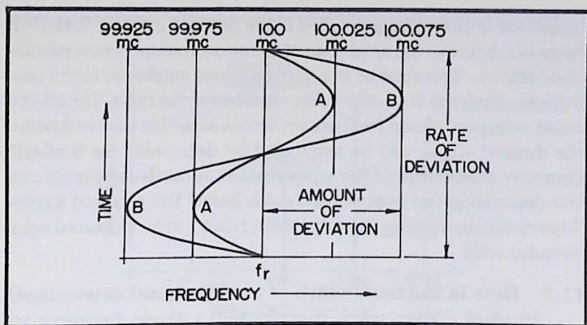

Fig. 11-1. Tank circuit frequency changes.
In radio work, deviation is usually associated with frequency modulated (FM) receivers and used in phrases such as deviation ratio, rate of deviation, deviation distortion, etc. Deviation itself simply means variation. In FM, the frequency of the audio signal determines the number of times per second (rate of deviation) that the radio frequency changes. The amplitude of the AF signal determines the extent of tank circuit frequency change (amount of deviation). A graph representing the changing tank circuit frequency at an audio rate is shown in Fig. 11-1.
The letters f_r represent the resting frequency of the tank circuit when there is no modulating signal present (in this case $f_r = 100$ MHz). With a sinusoidal sound source of 500 Hz applied (A in Fig. 11-1), the amount of deviation on either side of the resting frequency is 25 kHz and the rate of deviation is 500 Hz.
When the amplitude of the 500 Hz sound source is increased to B (as shown in Fig. 11-1) the rate of deviation remains constant but the amount of deviation increases to 75 kHz. The oscillator frequency now changes from 99.925 MHz to 100.075 MHz.